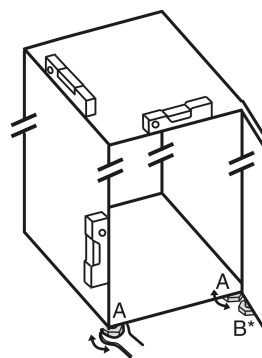

Fig. 5
- ▶ Unscrew the adjustable feet *Fig. 5 (A)* using the enclosed open-end spanner and a spirit level until the appliance is firmly aligned and level.
- ▶ Unscrew the adjustable foot *Fig. 5 (B)* on the swap bearing block with the enclosed open-end spanner until it rests on the floor.
- ▶ Turn the adjustable foot *Fig. 5 (B)* 90° further.